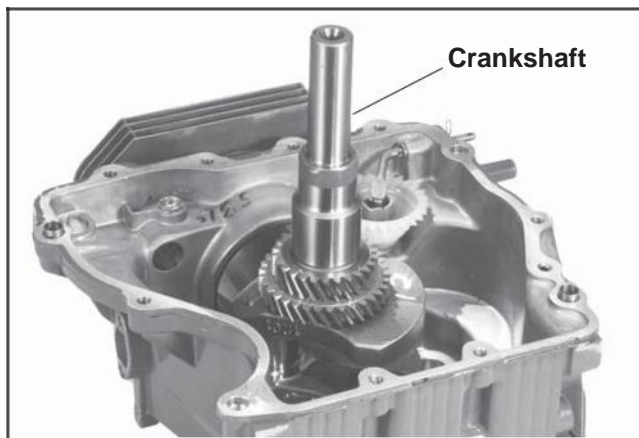

Figure 11-4. Installing Crankshaft.
2. Insert the crankshaft through the flywheel end bearing. See Figure 11-4.